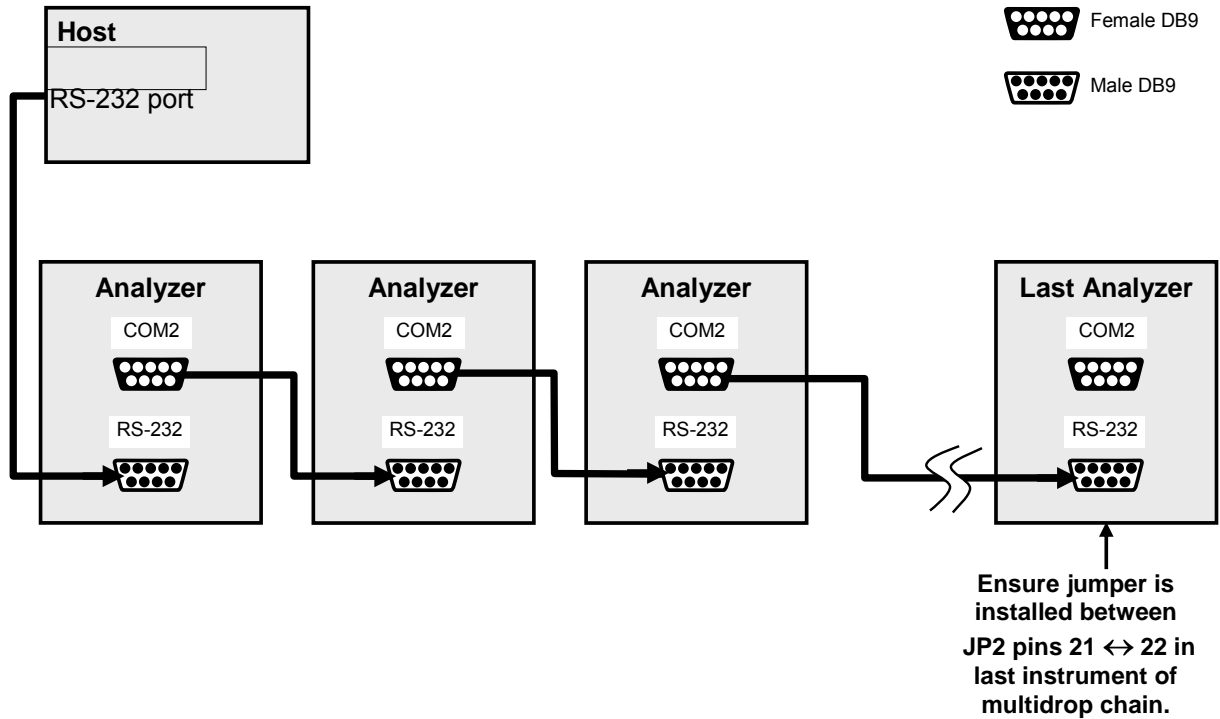

Figure 3-14: RS-232-Multidrop PCA Host/Analyzer Interconnect Diagram
5. Referring to Figure 3-14 use straight-through DB9 male → DB9 female cables to interconnect the host RS232 port to the first analyzer's RS232 port; then from the first analyzer's COM2 port to the second analyzer's RS232 port; from the second analyzer's COM2 port to the third analyzer's RS232 port, etc., connecting in this fashion up to eight analyzers, subject to the distance limitations of the RS-232 standard.